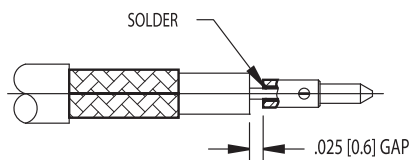

FIGURE 2
2. SLIDE CENTER CONDUCTOR OF CABLE INTO REAR CONTACT. SET GAP BETWEEN CONTACT AND DIELECTRIC OF CABLE. SOLDER. CLEAN. (SEE FIG. 2)